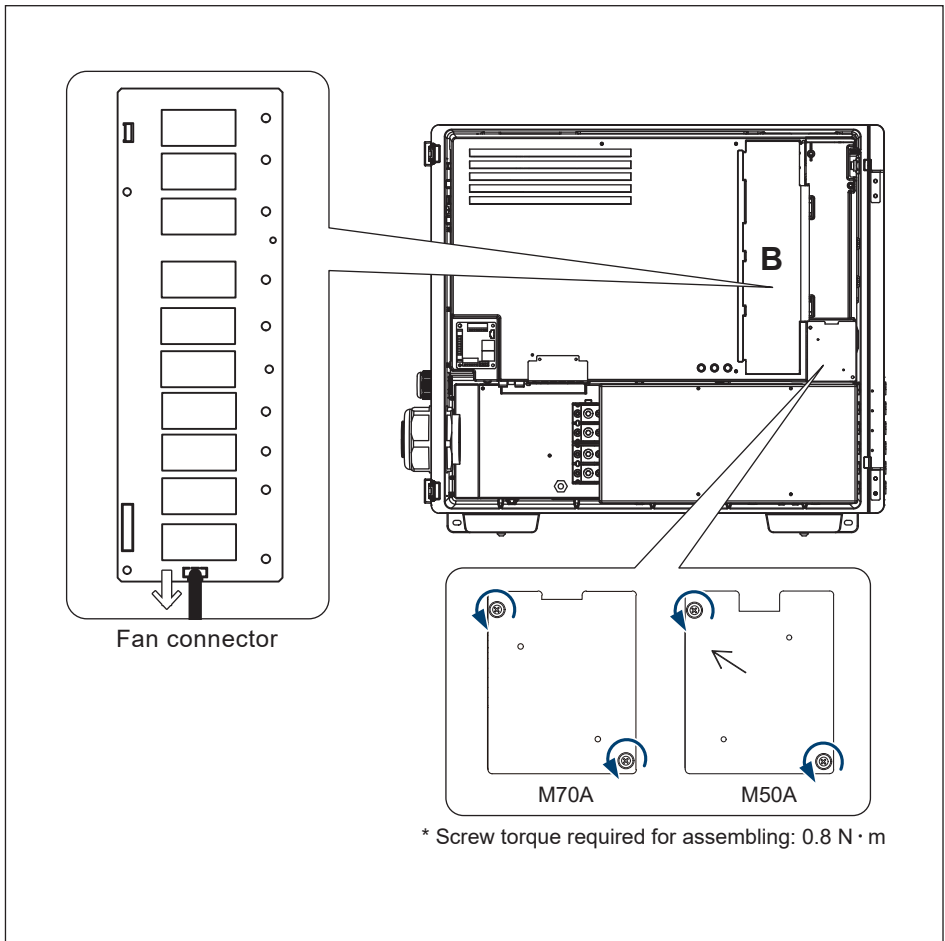
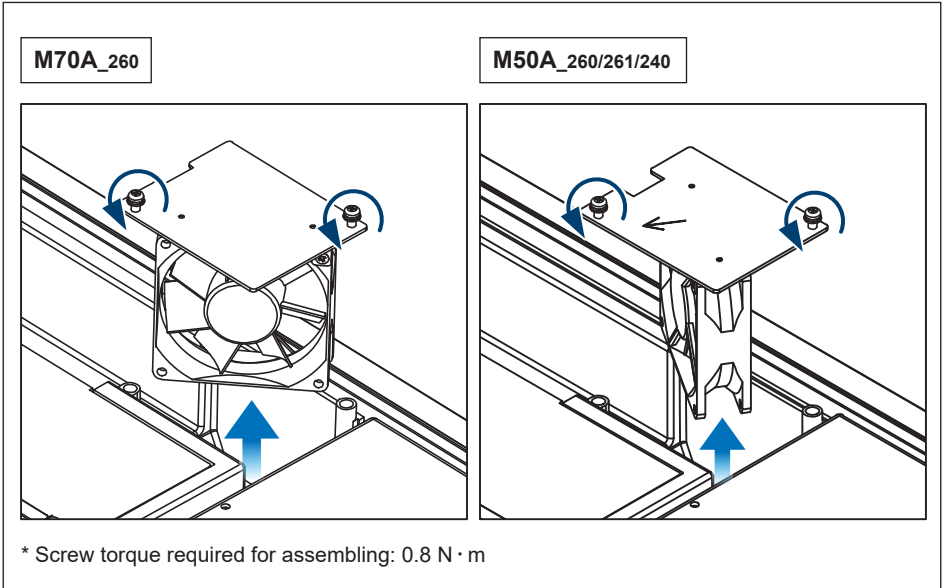

Figure 5-11: Internal fan 1 location & remove the shield cover
Figure 5-12: Take off the internal fan 1
- (1) Remove the B cover.
- (2) Loosen two self-retaining screws shown in **Figure 5-11** and remove the fan cabinet.
- (3) Disconnect the power connector on the DC SPD board.
- (4) Lift the entire fan assembly. (shown in **Figure 5-12**)